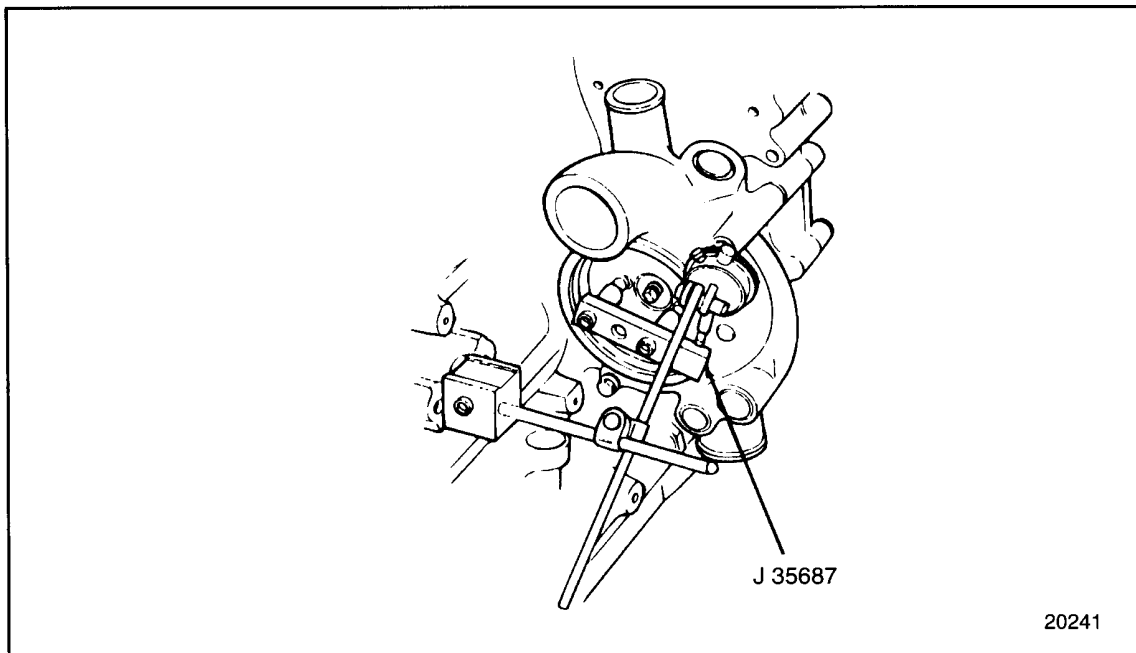

Figure 1-286 Water Pump Impeller Slip Tester Method
- [b] Install the water pump impeller slip tester, J 35687, to the water pump impeller with two 5/16-18 bolts, using the instructions supplied with the tool. See Figure 1-286.